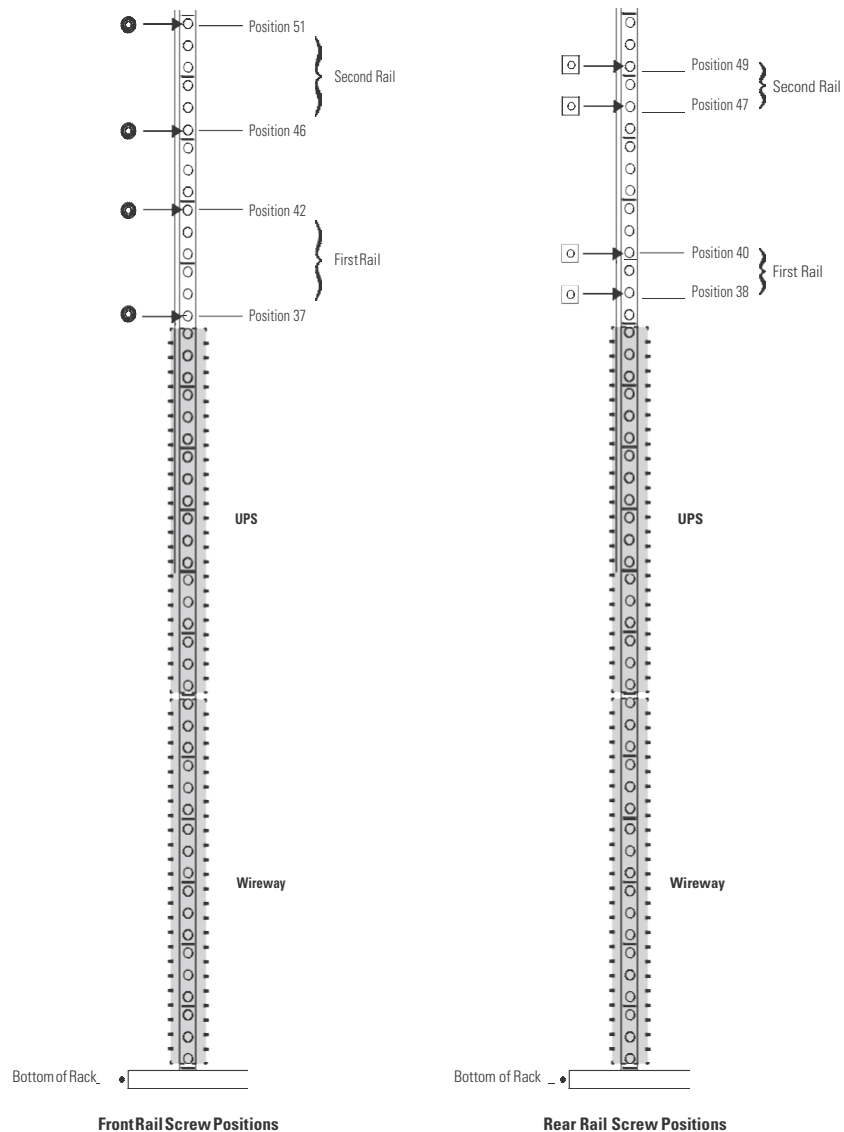
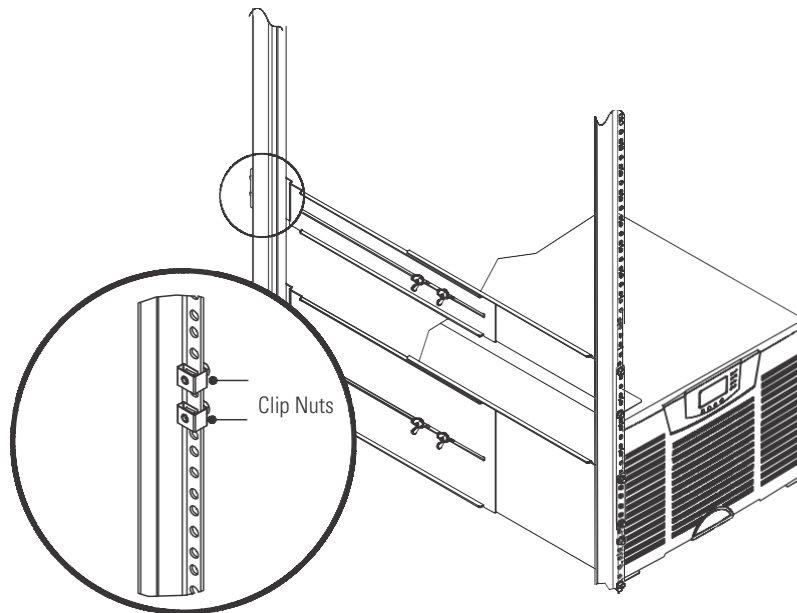

Figure 32. Rail Screw Positions for the EBM (Single UPS and Parallel Wireway with Two EBMs Shown)
Figure 35. Securing the Rear Rail
Place the first rail for the first EBM above the UPS, using positions 37 and 42 for the front hex-head screws. If you are installing additional rails, place the next rail 4 holes above the last installed screw (see Figure 32).
4. Using two clip nuts and two hex-head screws, attach the rail to the rear of the rack (see Figure 32 on page 45 and Figure 35).